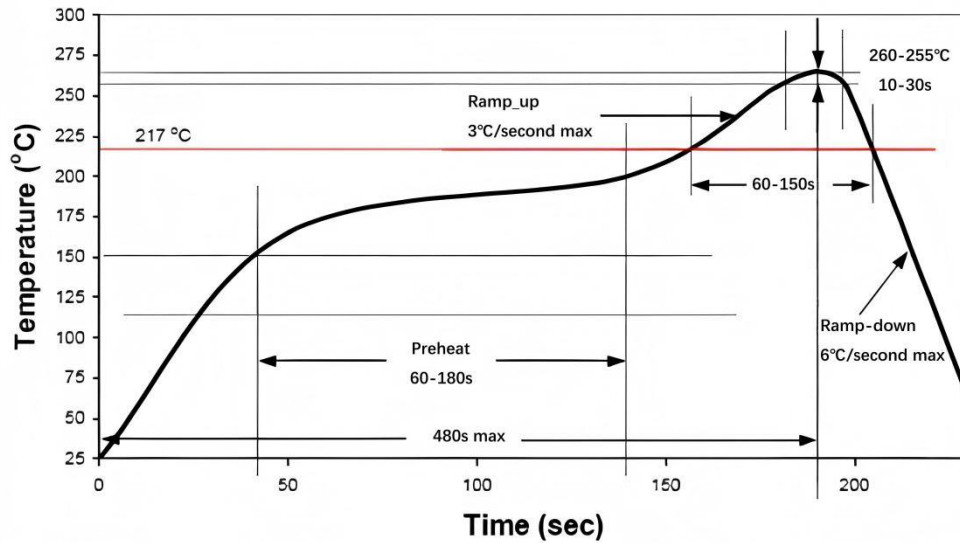

Fig.7 Reflow soldering temperature setting conditions
(1) Manual welding
(2) Reflow soldering
(3) Reflow soldering (SMD terminal type)
- The recommended reflow oven temperature setting conditions are shown in Figure 7.